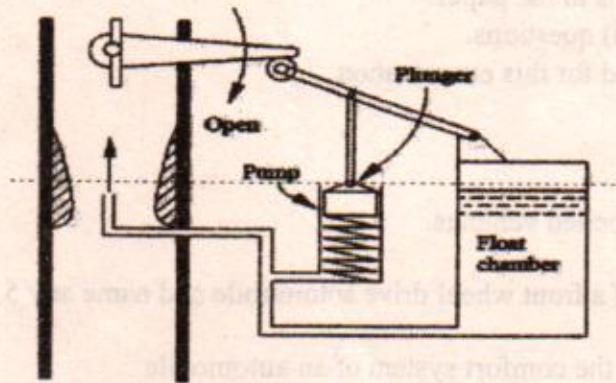

Figure Q2
6. Identify the following system of a carburetor shown in Figure Q2. Explain its function in the carburetor